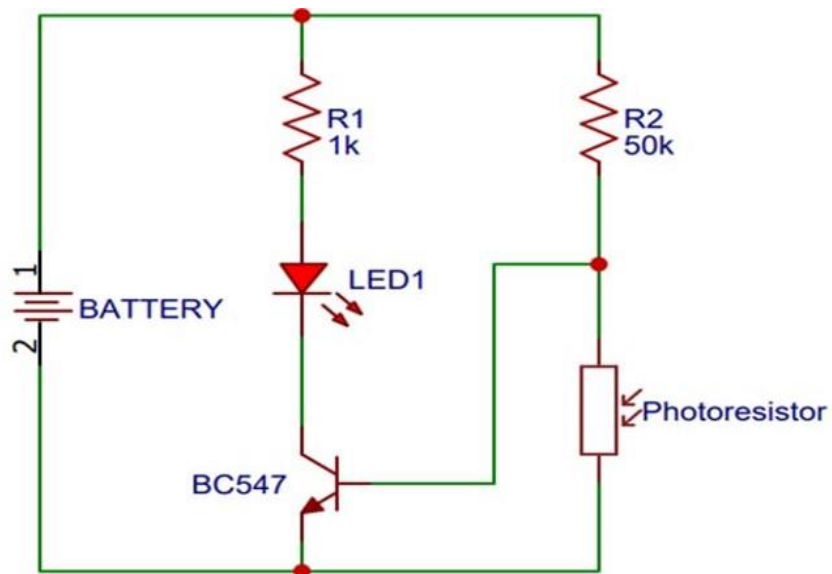

Figure 5.4: Circuit diagram
1. Connect circuit as shown in figure 5.4.